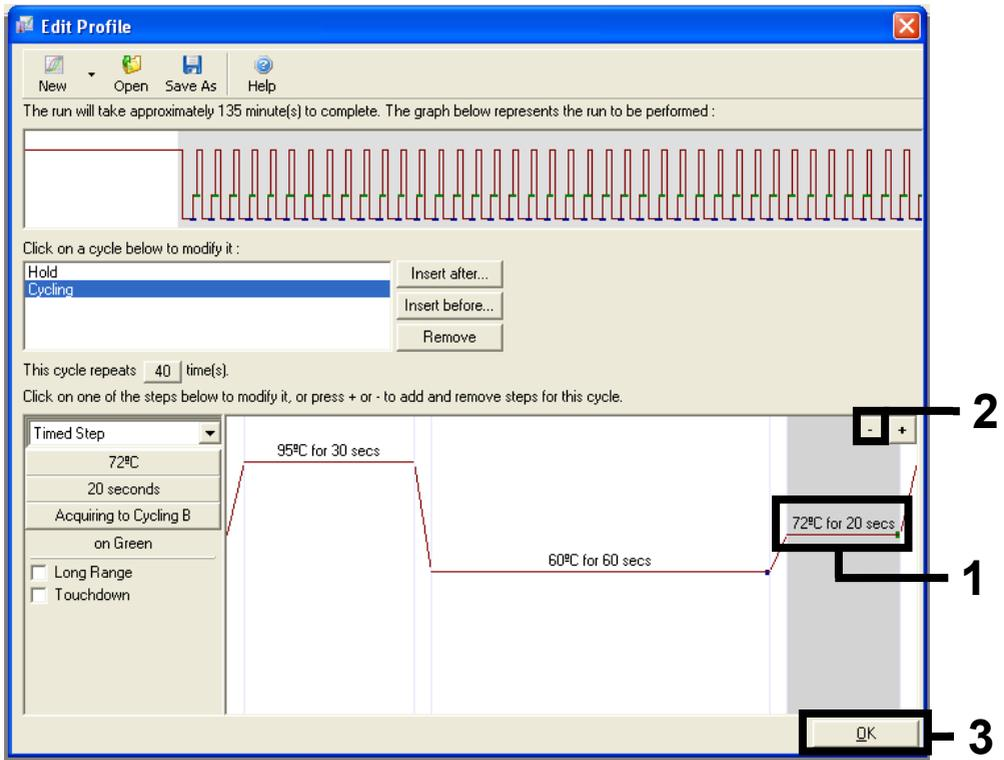

Figure 17. Removal of extension step.
11. Highlight the third step and delete by clicking “-”. Click “OK” (Figure 17).